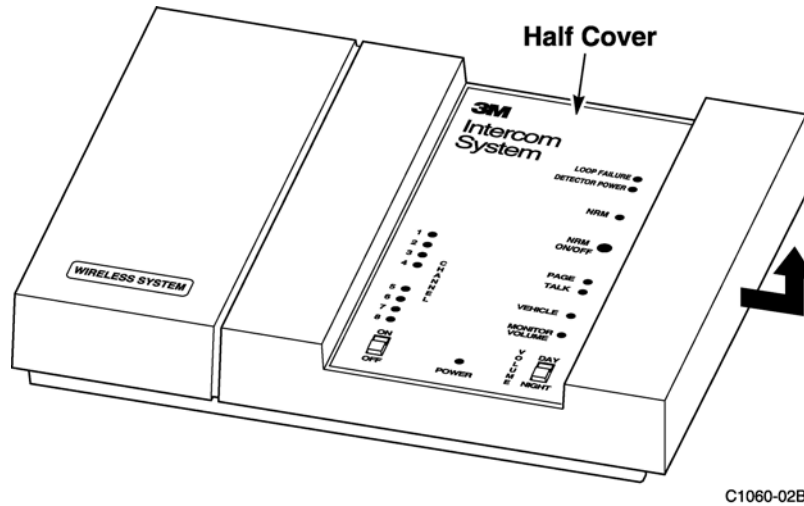

Figure 12. Removing the Half-Cover from the Base Station
1. Pull slightly outward on the lower right side of the base station half-cover and then lift and remove the cover as shown in Figure 12.